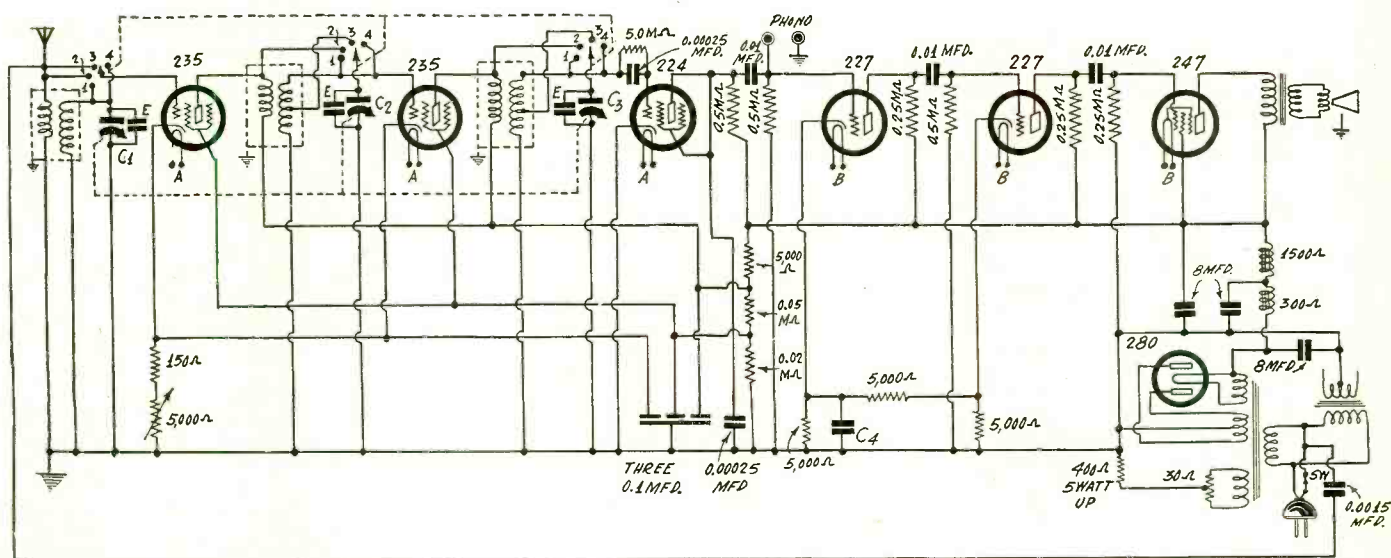

FIG. 2
**I**N the construction of a tuned radio frequency receiver, some data will call for husky primaries, other data for skinny primaries, while it is well known that the limit on the number of primary turns connected in plate circuits is the oscillation point. So a set that has 30 turns on the primaries may not oscillate at any setting of the volume control, on any frequency, whereas one with a few turns, say 10, would oscillate. Just that condition was experienced in working on the circuit shown in Fig. 2, where skinny primaries are used, and wherein also the regenerative audio frequency channel is used.